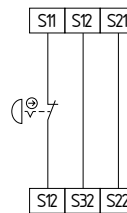

Fig. 8
**Single-channel emergency stop circuit with command devices to DIN EN ISO 13850 (EN 418) and EN 60947-5-5 (Fig. 8)**